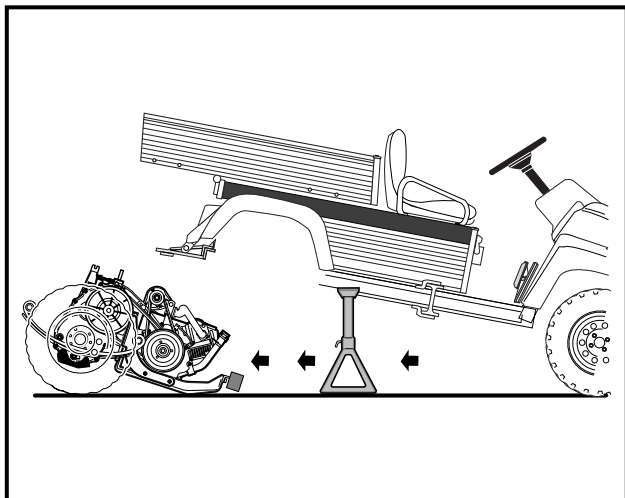

Figure 16-30 Remove Powertrain
14. Grasp the ends of the leaf springs at the rear of the powertrain and roll the powertrain out from under the vehicle (**Figure 16-30, Page 16-14**).